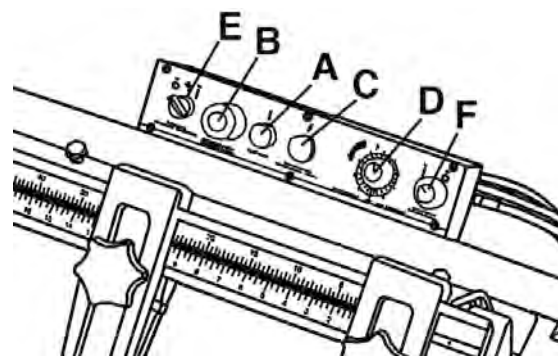

FIGURE 19
2. The machine is started by pushing the start button (A) Fig.19. The "Power On" light (C) will turn on. The bandsaw will continue to run until the saw arm is in the down position at the end of the cut, or when the stop button (B) is pushed.
3. The down feed speed can be adjusted by setting the feed rate knob (D). If you need to quickly stop the down feed of the saw arm, turn the hydraulic shut-off valve knob (F) to the right (red symbol) to stop. To restart the down feed at the identical feed rate set before, turn the hydraulic shut-off valve knob (F) to the left (green symbol).
4. To begin the coolant flow of the coolant pump during cutting operations, turn the coolant knob (E) to the left, to stop the coolant flow turn the coolant knob to the right.